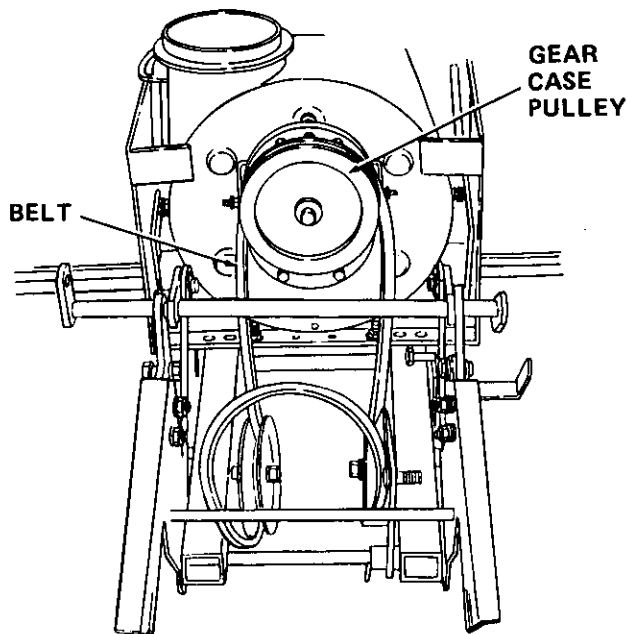

Figure 16
9. Route belt over gear case pulley on snow thrower attachment. Refer to Figure 16.